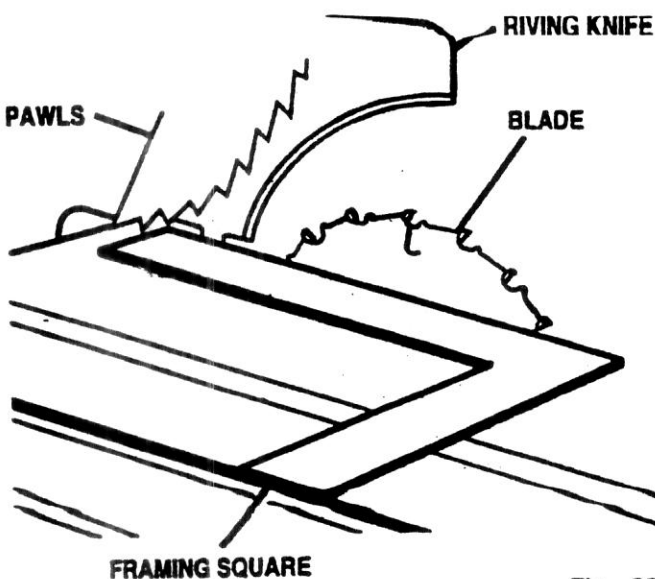

Fig. 29
See Figures 29, 30, and 31.
- Place a framing square or straightedge beside the blade on the left. See Figure 29.